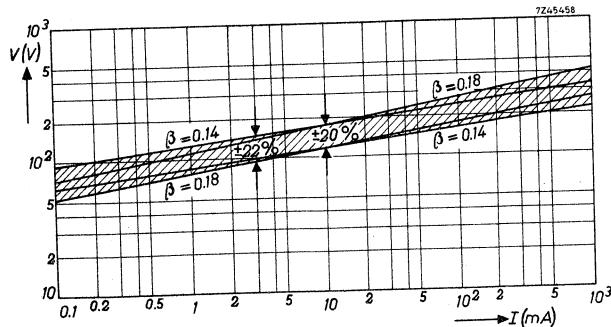

Fig. 10 Spread of voltage/current characteristic due to β -tolerance.
According to Eq. (1) it is possible to specify the electrical characteristics of a VDR resistor by giving its C and β -values. The advantage of this specification is that only two parameters are used. The disadvantage is, however, that due to the inevitable tolerances on the β -values, the spread in voltages at low currents (in the working area) becomes very large. It is for this reason that the method of specifying by the C-value defined at 1 A is abandoned and we now specify the voltage across the VDR at currents which lie in the working area (1, 10 or 100 mA instead of 1 A). In this way it is possible to supply VDRs which have much closer tolerances in the area where they are used, see Fig. 10.
Standard VDRs are specified with a certain tolerance on voltage and a spread on β -value. It can be seen in Fig. 10 that due to the spread in β -value the tolerance on voltage may increase at currents other than the specified current at which the VDR is measured.